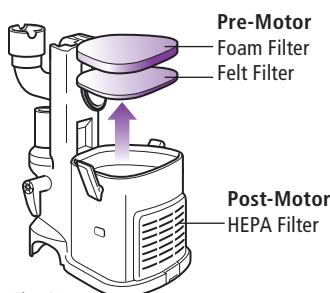

Fig. 21
- 2 Pull the 2 filters out from the top of the motor base. **(Fig. 21)**